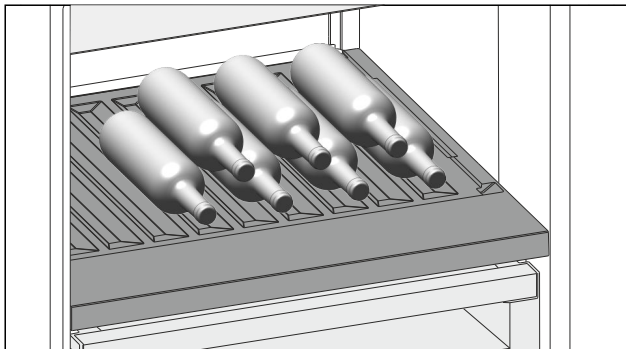

Fig. 215 Example illustration
- ▶ Place bottles in the back row with their bases against the back wall. (see Fig. 215)